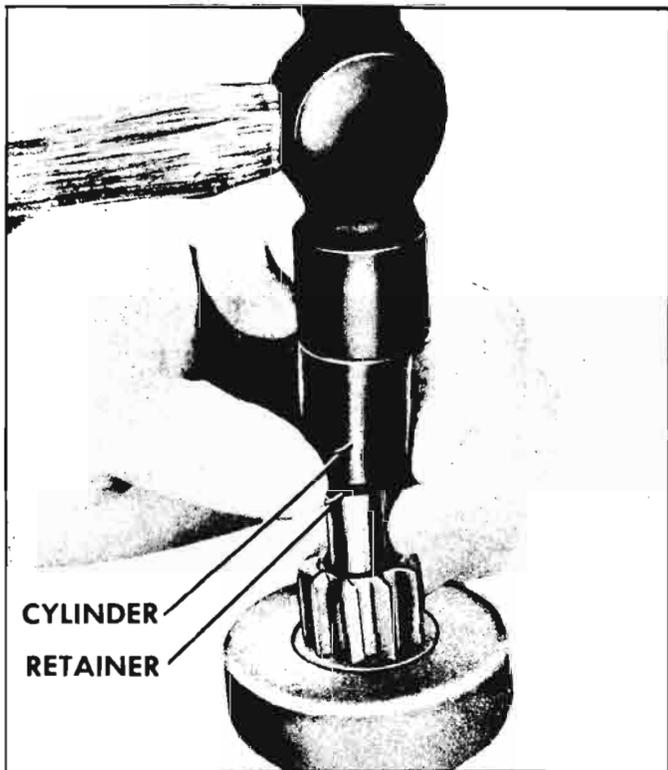

Fig. 8-42—Driving Retainer Off Snap Ring
- b. Slide a standard half-inch pipe coupling or other metal cylinder of suitable size (an old pinion of suitable size can be used if available) onto shaft so end of coupling or cylinder butts against edge of retainer (fig. 8-42). Tap end of coupling with hammer, driving retainer towards armature end of snap ring.